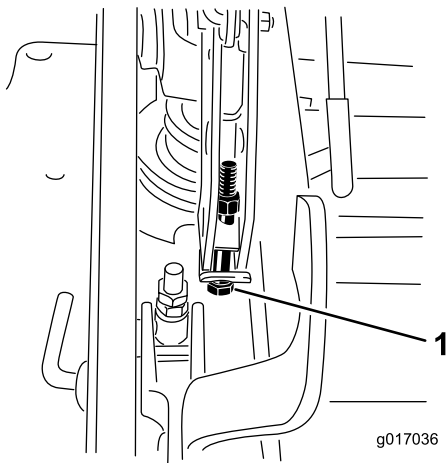

**Figure 92**
12. To adjust the single point system, loosen the 2 bolts at the bottom of the height-of-cut plate. Refer to Figure 92.
14. Torque the 2 bolts at the bottom of the height-of-cut plate (Figure 92) to 37 to 45 N·m (27 to 33 ft-lb).